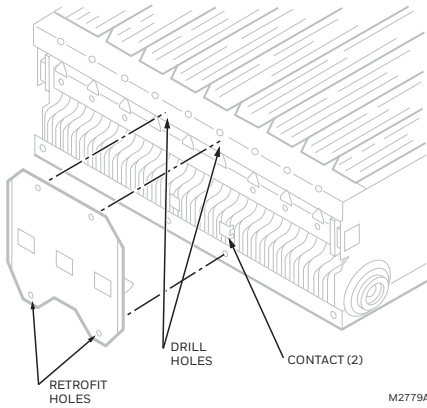

Fig. 2. Completed terminal board installation showing proper align
4. Line up the two mounting holes in the terminal board with the matching holes in the cell frame rail, making sure the terminal board contacts cover most of the surface of the interface clips. See Fig. 2.